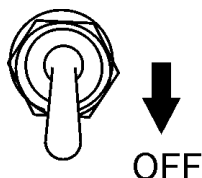

Figure 17. Idle Control Switch (OFF)
- Place idle control switch (Figure 17) in the **OFF** (down) position. This will allow the engine speed to run at about 3600 RPM's.
Placing the idle control switch in the **OFF** position (Figure 17) allows the engine to operate at a maximum speed of about 3600 RPM's.